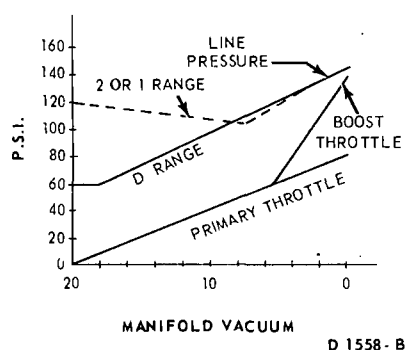

FIG. 11—Primary Throttle Pressure, Boost Throttle Pressure and Line Pressure Versus Manifold Vacuum
Figure 11 shows how primary throttle pressure varies with engine vacuum.
to compensate for increased throttle openings and engine torque output. Figure 11 shows how line pressure varies with engine vacuum at 0 output shaft rpm.
T.V. pressure from the throttle booster valve is delivered to the downshift valve, throttle modulator valve, cut-back valve, and spring end of the 2-3 backout valve and manual low valve. Figure 11 shows the relationship between primary T.V. pressure and boosted throttle pressure.